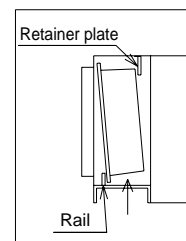

Fig.5
- (2) Insert the filter from the bottom. (Fig. 5)